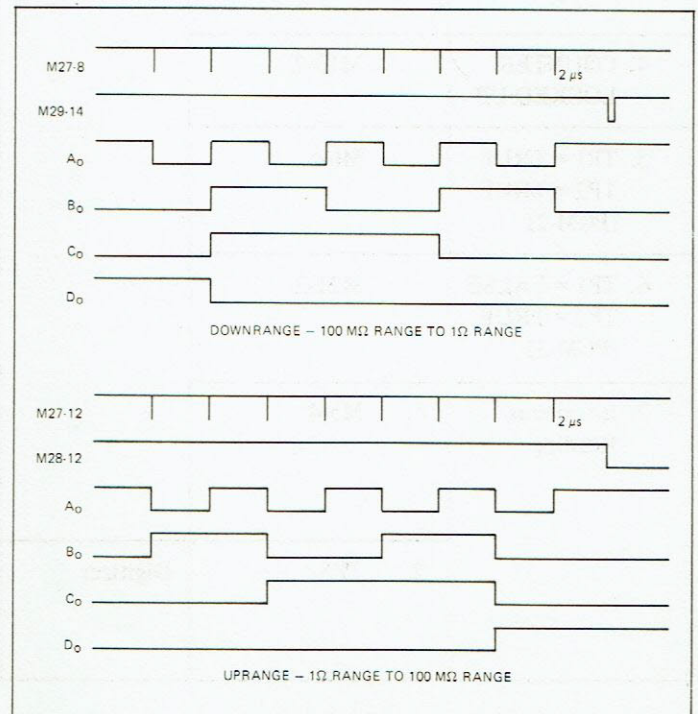

Figure 5.7 - Auto Range Sequence
5.42 The Autorange circuitry consists of an up/down counter M30, two full adders M29 and M31 and Logic circuitry consisting of portions of M18, M21, M25, M27, and M28. All of the components are located on the main board. The normal up and down range sequence for the ohms function are shown in figure 5.7. The upper and lower range limits are determined by the function selected, generating codes to the full adders. The codes for each function are shown in table 5.6.